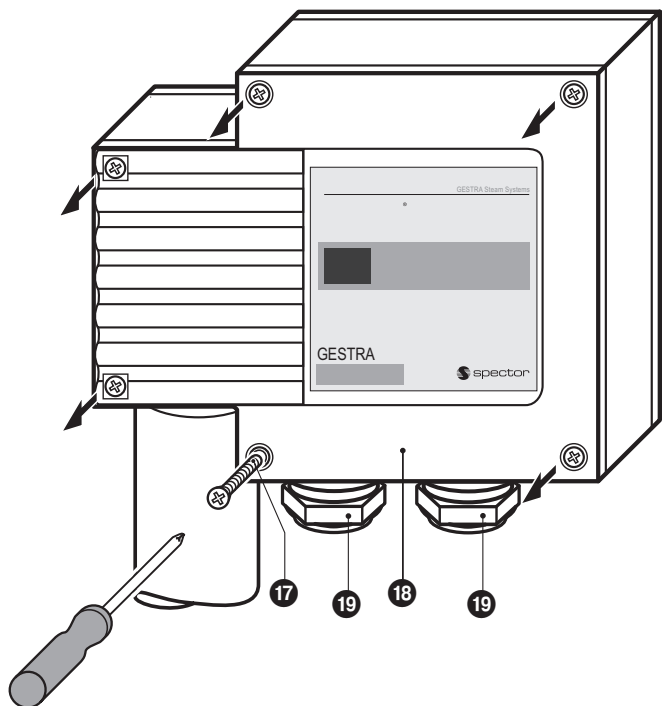

Fig. 6
1. Unscrew cover screws 17 and remove cover 18. Fig. 6
1. Undo the cover screws 17 and take off the housing cover 18. **Fig. 6**
1. Unscrew cover screws **17** and remove cover **18**. **Fig. 6**
1. Unscrew cover screws 17 and remove cover 18. **Fig. 6**